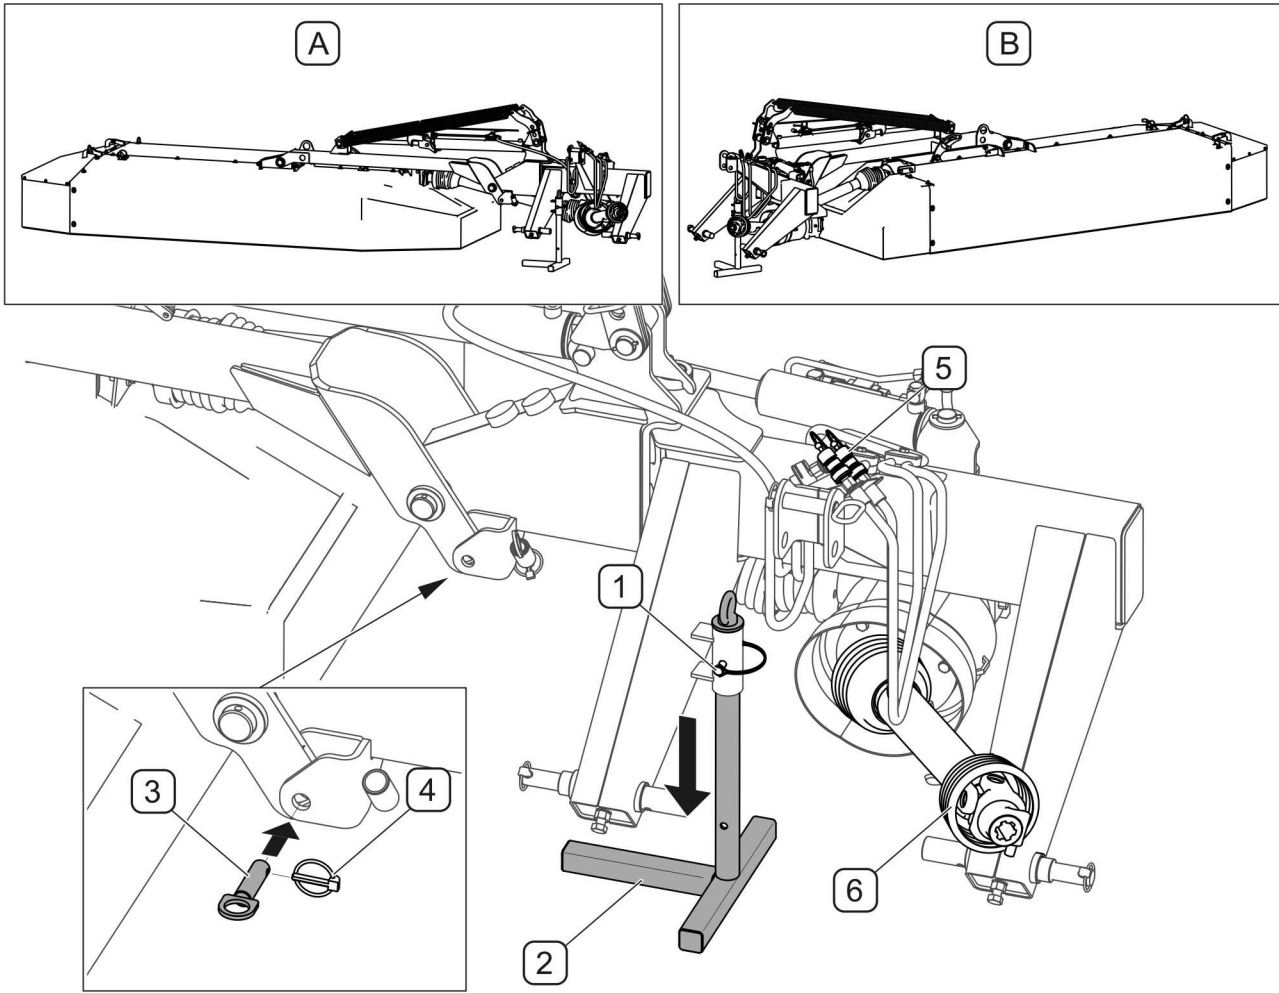

FIG. 4.12A **Disconnecting mower from tractor**
Before disconnecting mower from the tractor's linkage, lock the lifting arm in parking position using pin (3) and cotter pin (4) (FIG. 4.12A). Do not disconnect mower from tractor before lifting arm is interlocked.
- set cutting unit in an appropriate position (A) or (B)
- remove securing pin (1) and lower support leg (2);
- Using pin (3) and cotter pin (4) secure lifting arm and parking position;
- disconnect hydraulic conduit plugs (5) from tractor and secure with stoppers and place in special brackets on mower frame,
- disconnect PTO shaft from tractor's PTO drive (4) and place on special bracket on mower frame,
When disconnected from tractor, the mower should be set in position (A) or (B) resting on support leg (2) and cutterbar (FIG. 4.12A)